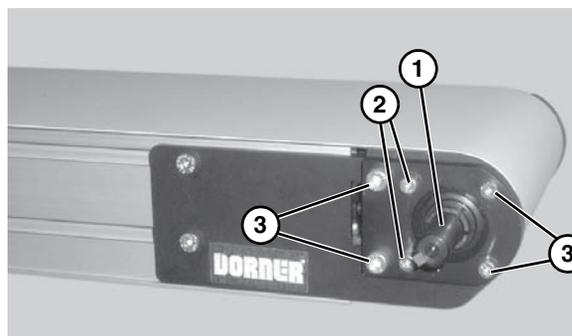

Figure 3
2. Locate drive output shaft (**Figure 3, item 1**). Remove two (2) M8 screws (**Figure 3, item 2**) and four (4) M6 screws (**Figure 3, item 3**) and discard.